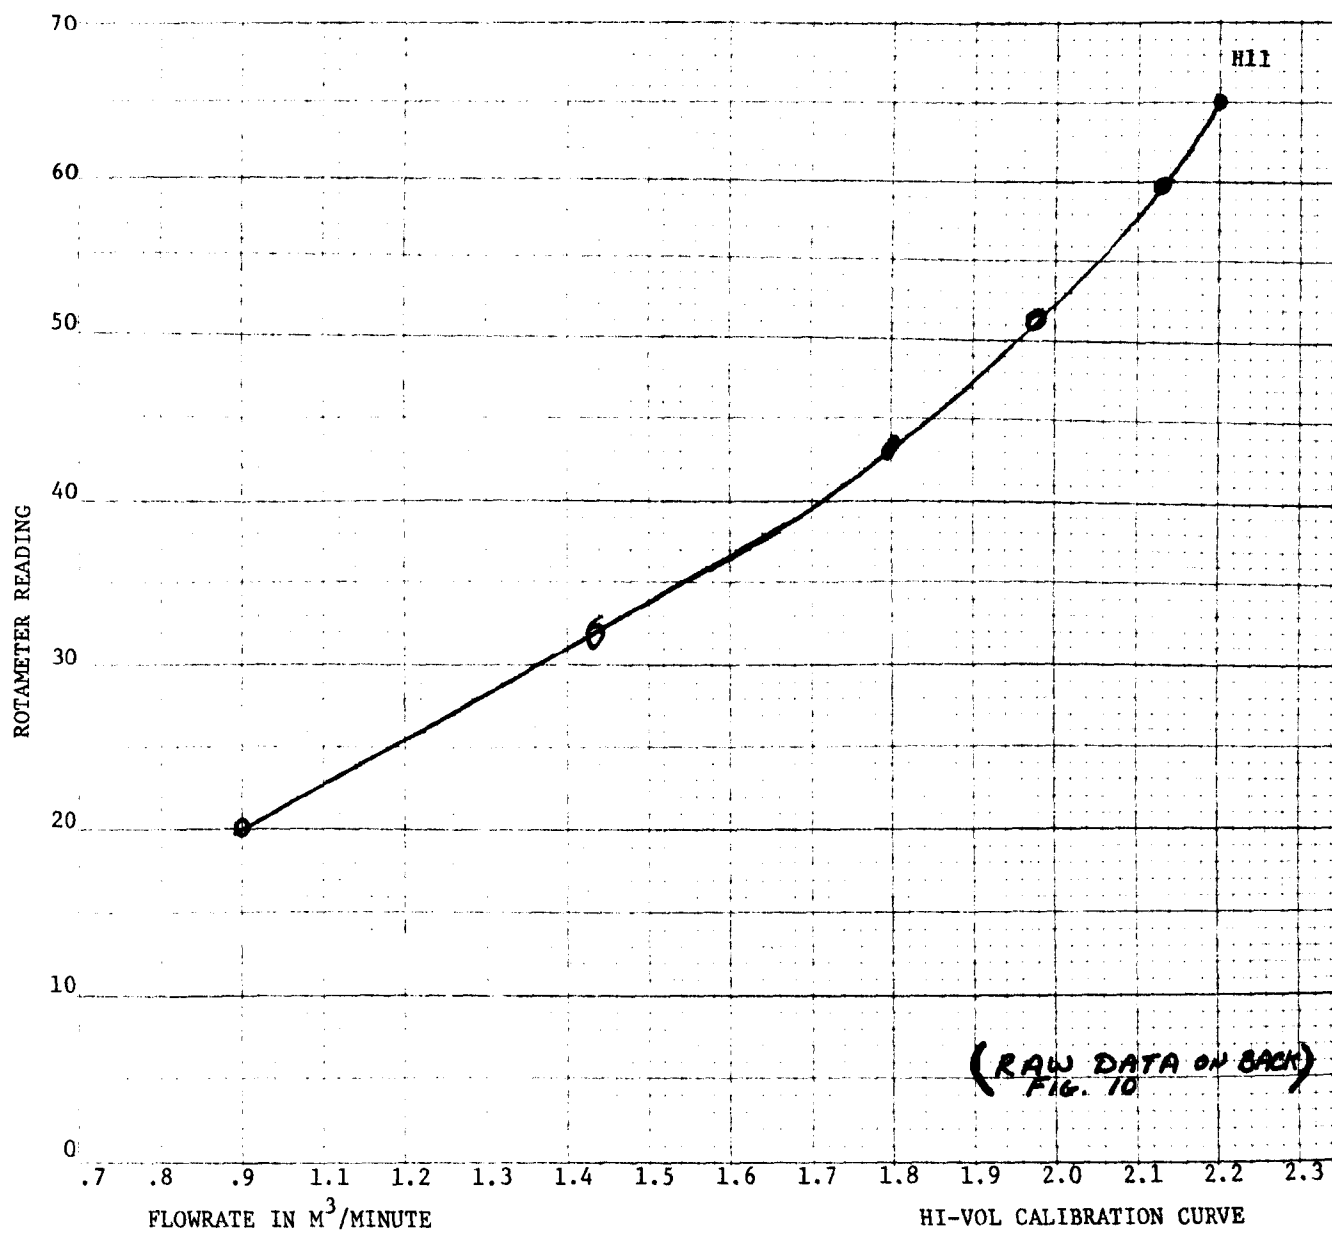

FIGURE 16
**Step #15:** Plot the rotameter readings vs. the air flowrates as shown in Figure 16.